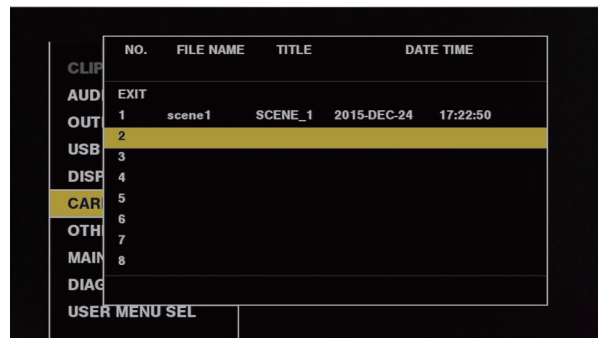

Fig. 2
- 2 Select a file number (1 to 8) and press the control stick (or **<SEL/PUSH SET>** dial button). (Fig. 2)
The file is written with the entered title on the SD memory card, and the screen of Fig. 2 returns.